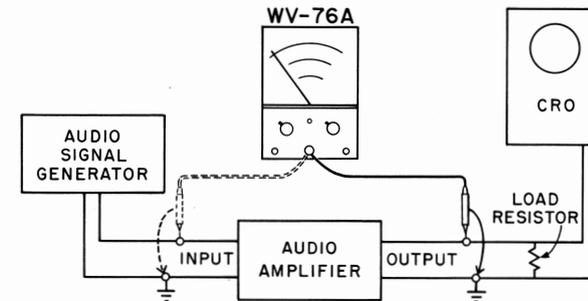

Figure 4. Test setup for frequency-response measurements.
1. Connect the equipment as shown in Figure 4. The WV-76A should be connected to the input of the amplifier each time the frequency of the input is changed. If necessary, adjust the output control of the audio generator to provide a constant input amplitude for all frequencies.
The oscilloscope shown in Figure 4 is not absolutely necessary for the frequency response check, however, it is helpful in that it may reveal distortion in the output waveform. The output should be a good sine-wave if the frequency response measurement is to be valid.